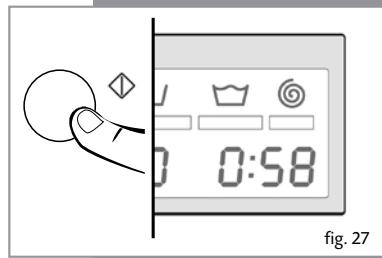

fig. 27
- To start up the washing machine you have to press the Start/Pause button (Figure 27).